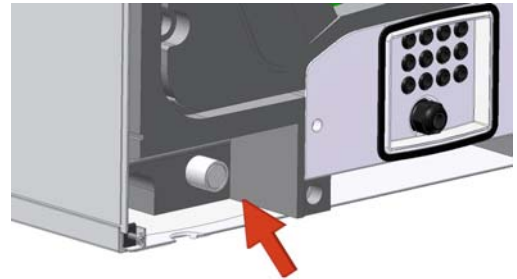

Figure 9: Condensate Stub Disk (Rear of Unit)
1. For vertical discharge, remove the rear cover and locate the condensate stub at the rear of the unit (see Figure 9).